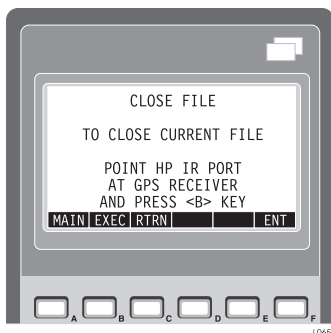

Figure 3.40: Close File Screen
5. To close the current file in Locus (and open a new file), press the **D** (**CLOS**) key in the Receiver Files Info screen. The Close File screen appears (Figure 3.40).